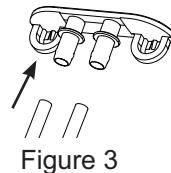
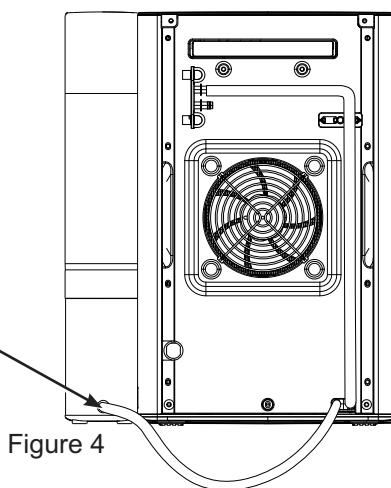
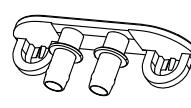
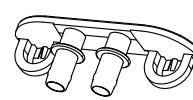

Figure 3
Figure 4
Figure 6
Figure 9
- Once water stops flowing, reconnect the drain tubes to the drain plug (Figure 3), or if you have a side tank, reconnect the unlabeled tube to the drain plug, and Tube B to the Side Tank base (Figure 4).
- Once draining is complete, reconnect both tubes to the gray plastic tube plug (Figure 6)
6. Once rinsing is complete, reconnect the drain tubes to the drain plug (Figure 6), or if you have a side tank, reconnect the unlabeled tube to the drain plug, and Tube B to the Side Tank base (Figure 4).
- Once draining is complete, reconnect both tubes to the gray plastic tube plug (Figure 9)
6. Once rinsing is complete, reconnect the drain tubes to the drain plug (Figure 9), or if you have a side tank, reconnect the unlabeled tube to the drain plug, and Tube B to the Side Tank base (Figure 4).